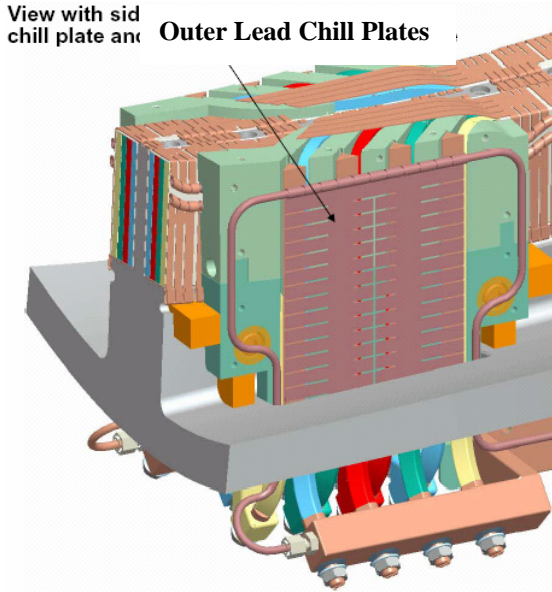

Figure 46- Outer Lead Area Chill Plate
- 6.45.1 To ensure that there are no interferences pre-fit the outer lead chill plate to the lead area. [Figure 46- Outer Lead Area Chill Plate]